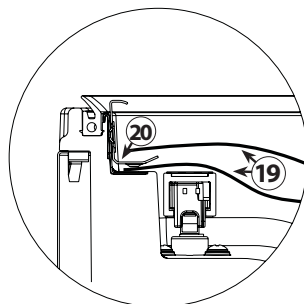

Fig. 1
5. Insert the bag (19) in the device so that the fixing bar (20) is in the middle of the open side of the bag. One side of the open end of the bag must be above the fixing bar (20) and the other under it so that the air can be completely extracted from the bag. (Fig. 1)
7. Insert the bag (19) in the device so that the fixing bar (20) is in the middle of the open side of the bag. One side of the open end of the bag must be above the fixing bar (20) and the other under it so that the air can be completely extracted from the bag. (Fig. 1)